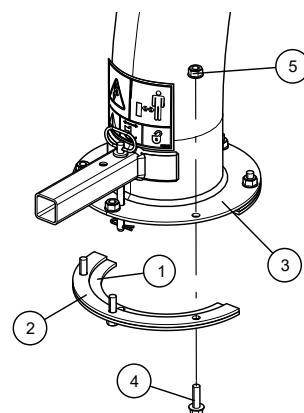
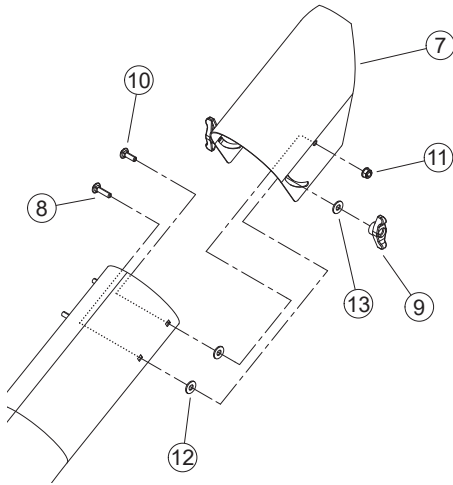

Figure 2.6, Attach Clamp Ring and Spacer
Figure 2.8, Attach Discharge Deflector
1. Attach one clamping ring (1) and one spacer ring (2) to discharge tube base (3) using three $\frac{3}{8}$ " $\times$ $1\frac{1}{4}$ " bolts (4) and nylock nuts (5). Tighten leaving $\frac{1}{16}$ " gap to assist in mounting to flange. See Figure 2.6.
2. Slide the tube onto the mounting flange on the chipper frame. The discharge clamp (1) should slide underneath the lip of the flange. Tighten the bolts to secure it.
3. Install the second half of the spacer (2) and clamp ring (1) on the discharge tube with $\frac{3}{8}$ " $\times$ $1\frac{1}{4}$ " bolts (4) and nylock nuts (5).
4. Attach lanyard with discharge pin (6) as shown in Figure 2.8. Loop on lanyard installed below nut located under discharge handle.